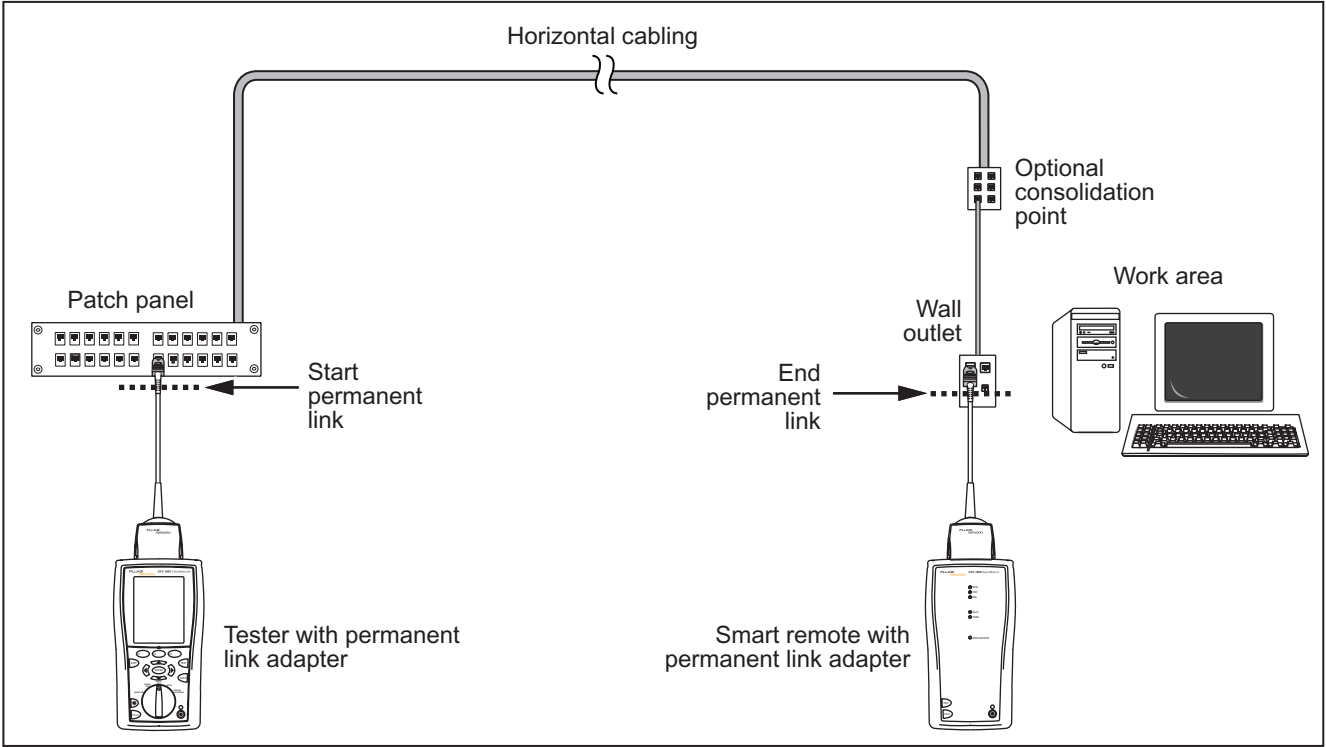

Figure 3-3. Permanent Link Test Connections
- 3 Turn the rotary switch to **AUTOTEST** and turn on the smart remote. Connect to the cabling, as shown in Figure 3-3 for a permanent link or Figure 3-4 for a channel.